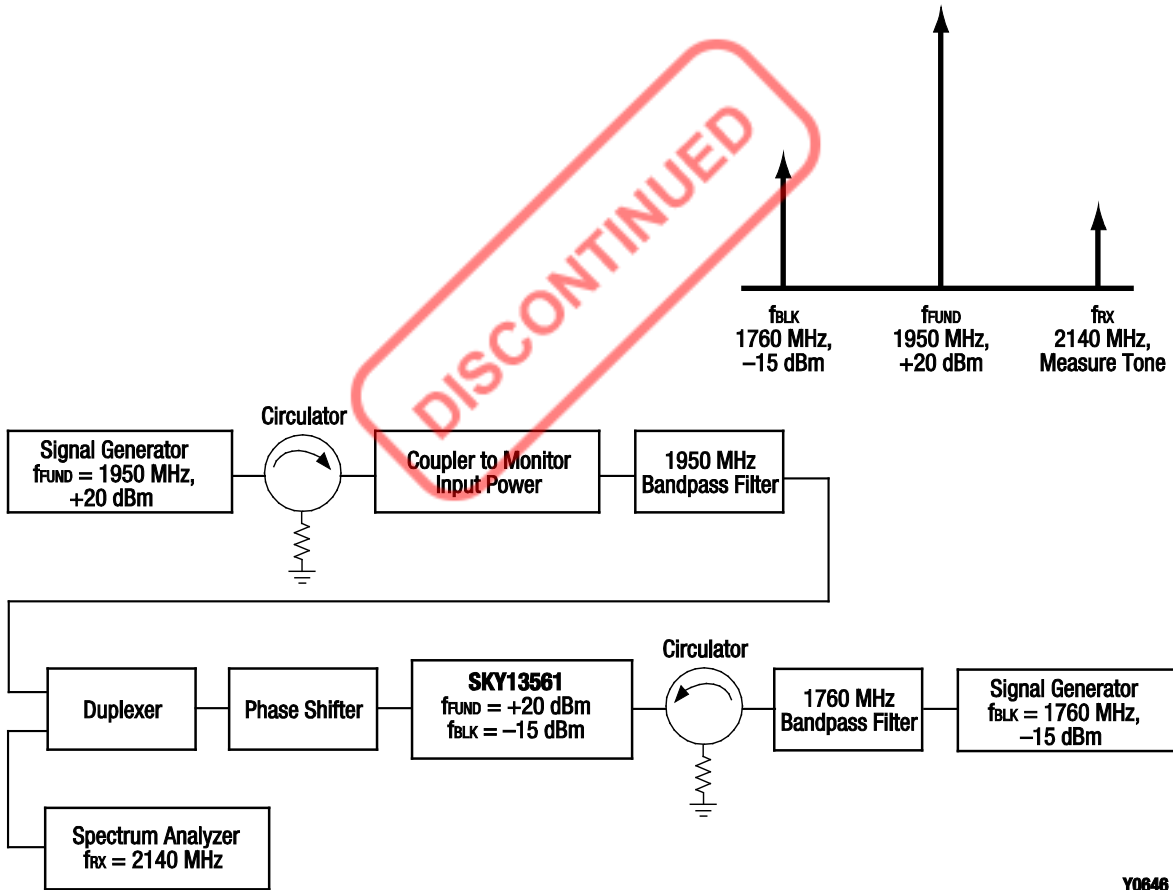

Figure 3. 3rd Order Intermodulation Test Setup
Figure 3 illustrates the test setup used to measure intermodulation products. This industry standardized test is used to simulate the WCDMA Band 1 linearity of the antenna switch. A +20 dBm Continuous Wave (CW) signal, f_{FUND} , is sequentially applied to all TRX ports, while a -15 dBm CW blocker signal, f_{BLK} , is applied to the ANT port.